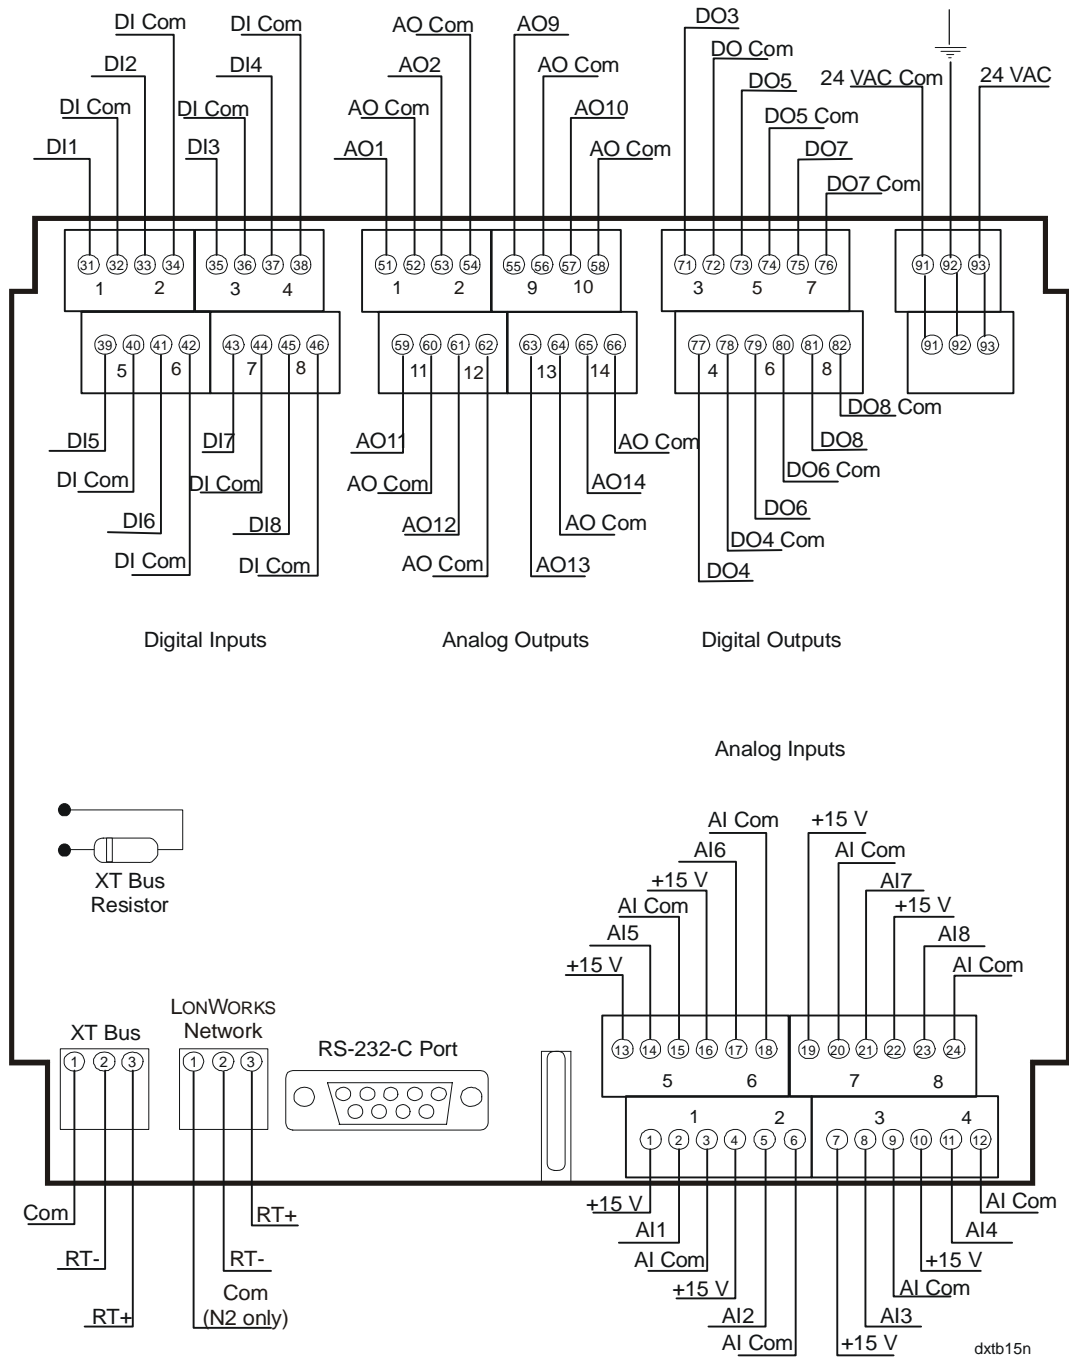

Figure 16: Connections at the Top and Bottom of the Panel Mounting Base
4. Wiring terminations are made via the terminal blocks, which accept 1 x 1.5 mm² (16 AWG) cable, on the top and bottom part of the base. See Figure 16. Terminations of the LONWORKS, N2 or XT communications bus cables are made via the connectors provided with the base.
Install 220 ohm end-of-line resistors at each end of the XT Bus line when the bus length is greater than 100 meters (330 feet). When the DX-9100 is at one end of the bus, the end-of-line resistor is already installed in the mounting base or frame. When the DX-9100 is not at one end of the bus, install two resistors externally, and use side-cutters to remove the XT Bus resistor on the mounting base or frame. (See Figures 16 and 17.) When the bus length is less than 100 meters (330 feet), no external resistors are required, but the end-of-line resistor in the mounting frame must *not* be removed.